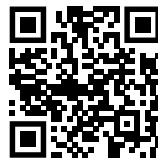

Fig. 113
- ▶ Open Liebherr SmartMonitoring Dashboard. (see Fig. 113)